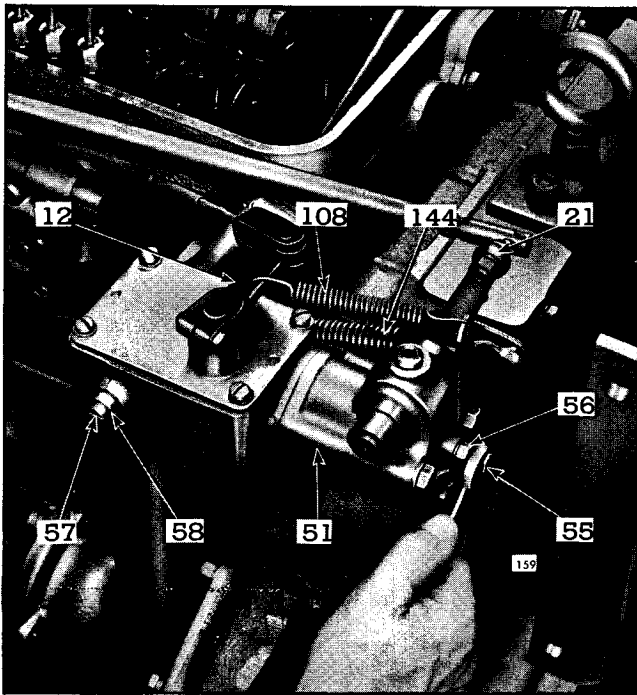

Fig. 3 - Adjusting Engine Idle Speed
2. Refer to Fig. 3 and loosen lock nut (58) and back out buffer screw (57) approximately 3/8".